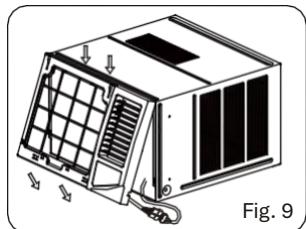

Fig. 9
1. Hang the upper edge of the frame. Then connect the coupler plugs and make sure not to interfere with the temperature sensor cable (see Fig. 9).